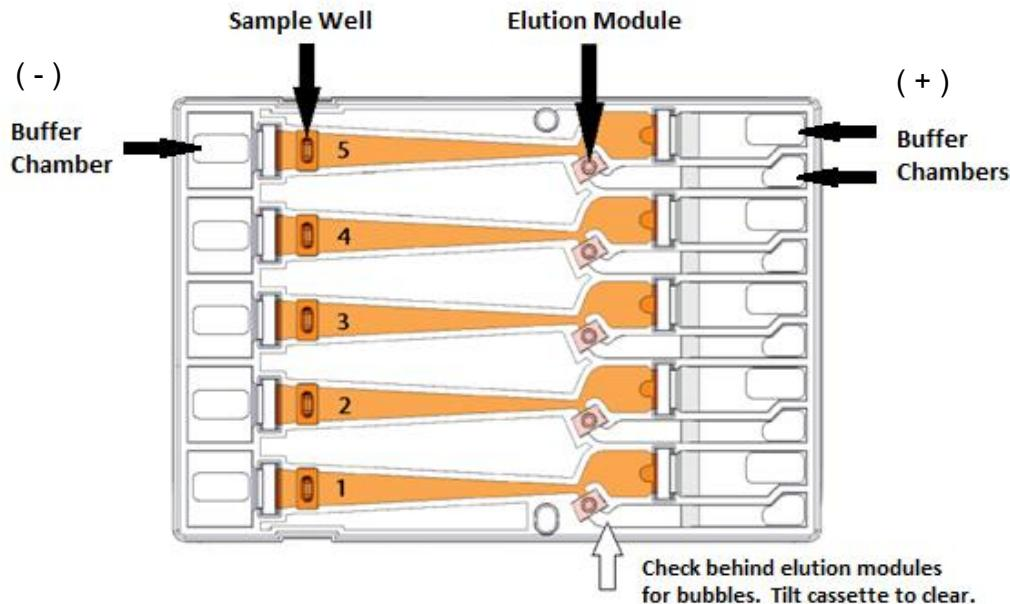

Figure 10.4. A schematic of a Gel Cassette.
1. **Dislodge bubbles from behind the elution modules.** Return the cassette to the right-side up position. Tilt the cassette, sample well side down, to release any trapped bubbles behind the elution modules into the (+) buffer chambers. Gently tap the cassette if necessary. **Figure 10.4**, below, shows location to check for bubbles.
2. **Place Cassette into the Pippin optical nest.** The cassette should be placed into the nest in the orientation shown in **Figure 10.4**, above, with the sample wells to the left side of the nest. When inserting the cassette into the nest, keep the (-) buffer chambers tilted down so that the bubbles in the elution reservoirs won't be trapped behind the elution modules.